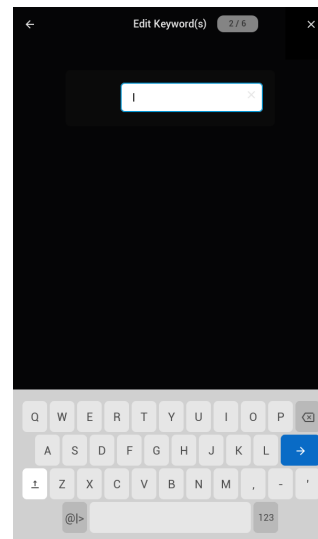

Figure 24: New Recipe Keywords
6. Input keywords for the search option and touch the blue arrow button to continue (Figure 24).